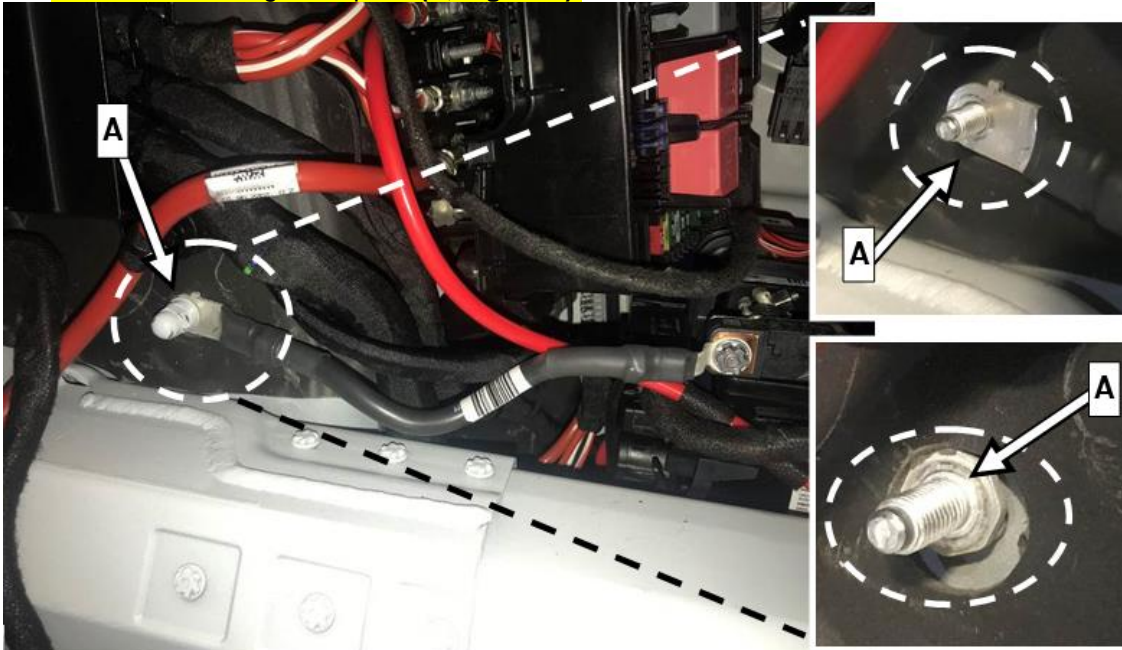

Figure 2, shown on vehicles without code ME 10 (Hybrid vehicle (plug-in, PHEV))
3. Remove ground line (A, Figure 2) of battery sensor (B95/3) of auxiliary battery from body.
i For vehicles **without** code ME 10 (Hybrid vehicle (plug-in, PHEV)), the ground line runs from the secondary 12 V on-board electrical system battery to the ground point (A, Figure 2).